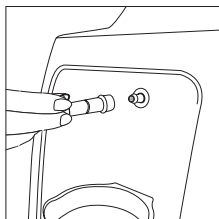

Figure 3
3. If using without a humidifier: Connect your nasal cannula to the oxygen outlet port, as shown in Figure 3.